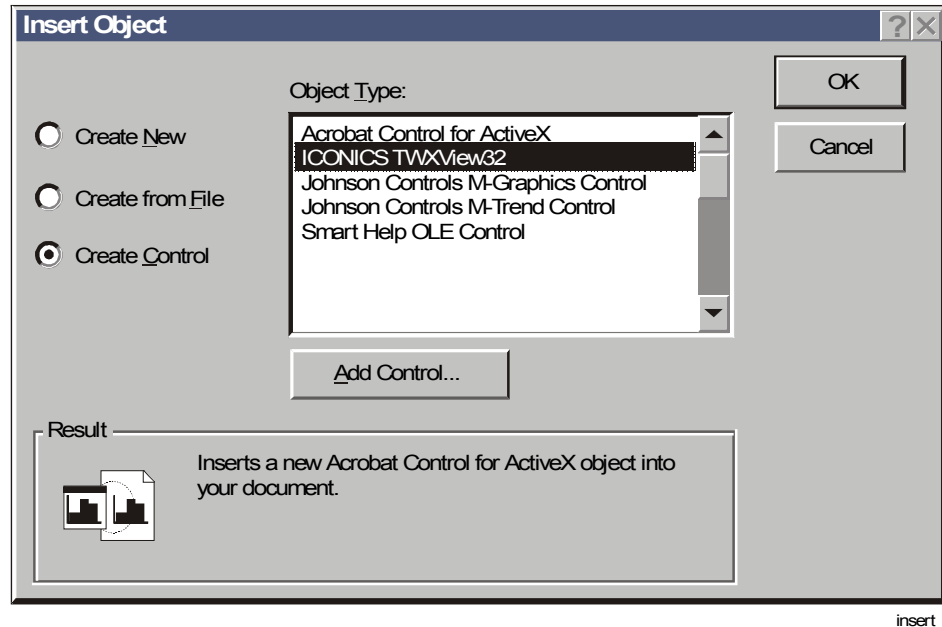

Figure 14-4: Insert Object Dialog Box
1. In M-Graphics on the Edit menu, select Insert New Object. The Insert Object dialog box appears (Figure 14-4).